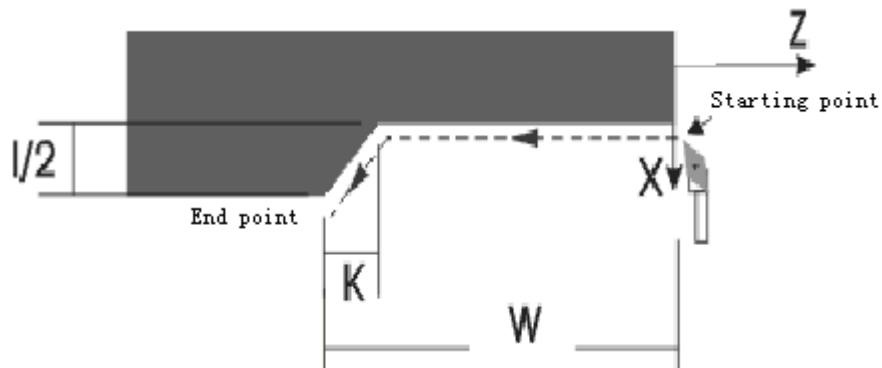

Fig. 4-9
1) G33 axial straight thread: as Fig. 4-9